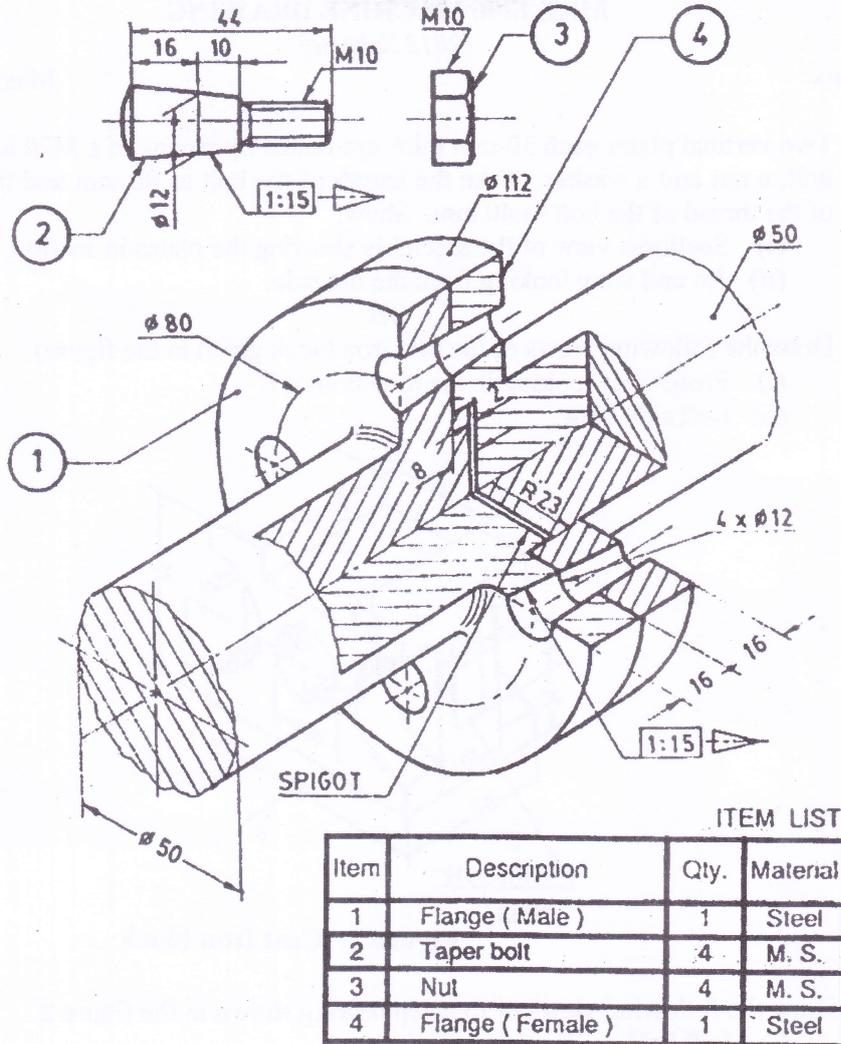

Figure 3: Flanged Coupling (Solid type)
IV. Assemble the Flanged coupling given in the figure 3 and draw the following views. (30)